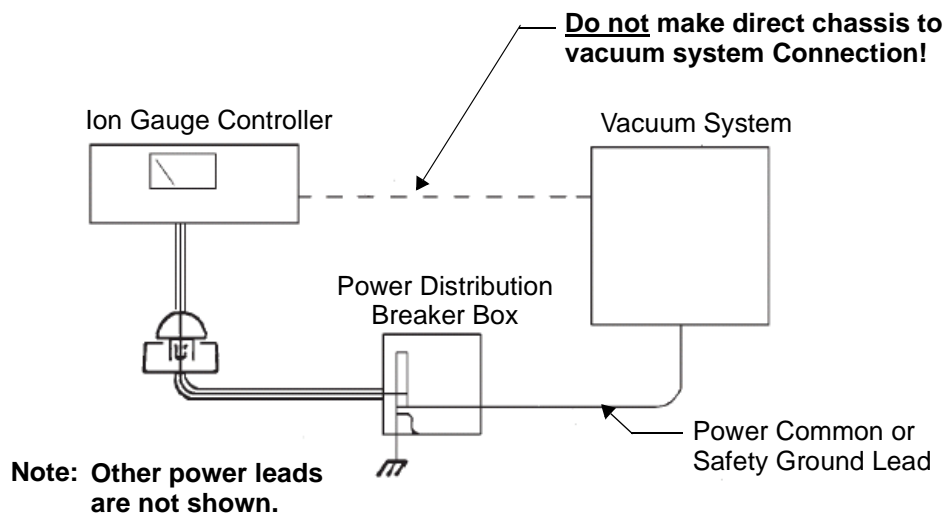

Figure 1 Ion Gauge and Vacuum System Connections
- ❑ Make absolutely sure that your vacuum system is grounded as shown in Figure 1.